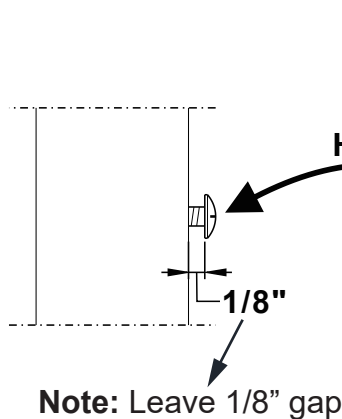

Figure 3.1
1. Install **H5** Mounting Screw to the pilot hole which is marked with black marker on the **back center** of the dartboard and leave approx. 1/8" of the screw head exposed from the backboard per shown on **Figure 3.1**. (This will allow you to "Hang" the dartboard onto mounting bracket which was intalled in Step 1).
Note: While Figure 3.1 shows a 1/8" gap in order to hang the dartboard onto the hanger, a small amount of "adjusting" may be required on the H5 center screw in order to achieve the best fit for the dartboard onto the cabinet.